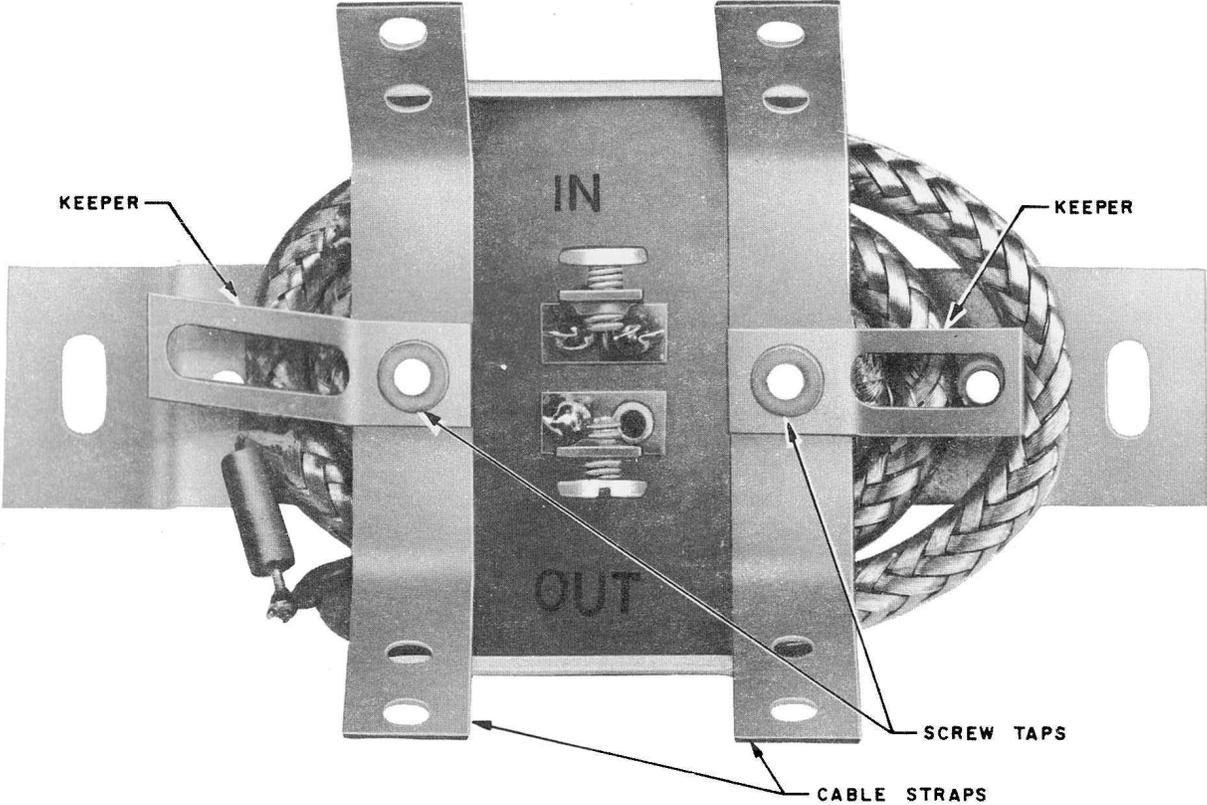

Fig. 3 – SKL 964-16U Jack, Rear View
3.05 Cables may be formed from either or both ends of jack. It is easier to form two cables from same end. IN and OUT terminals are provided on back of jack (Fig. 3). Connect incoming signal lead to IN terminal. If installation is multi-jack, connect outgoing signal lead to OUT terminal. Strip and attach ends of coaxial cable as follows: